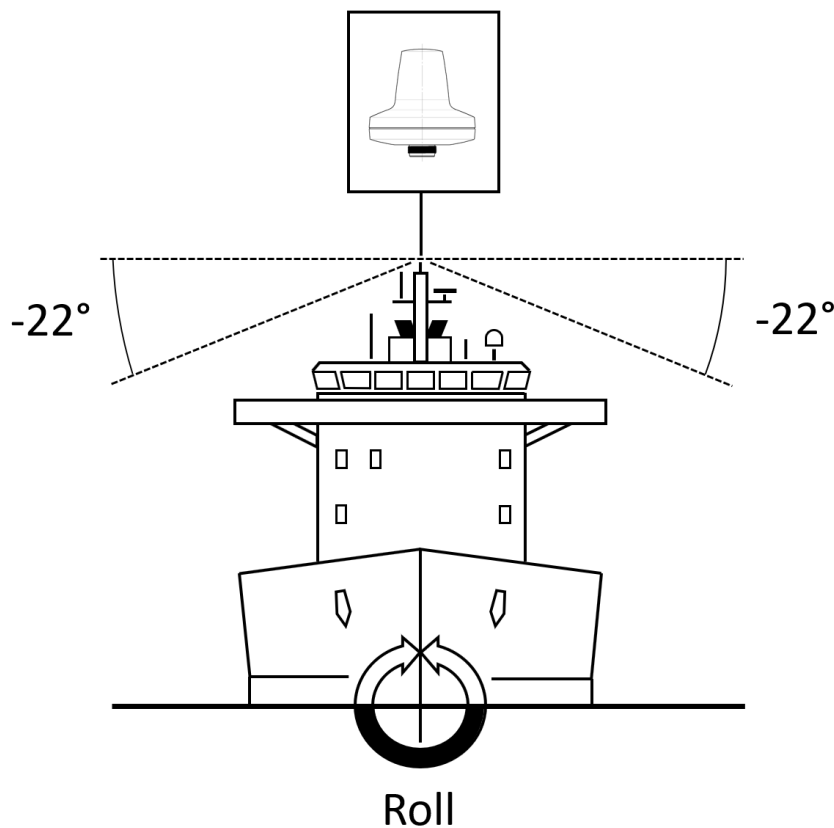
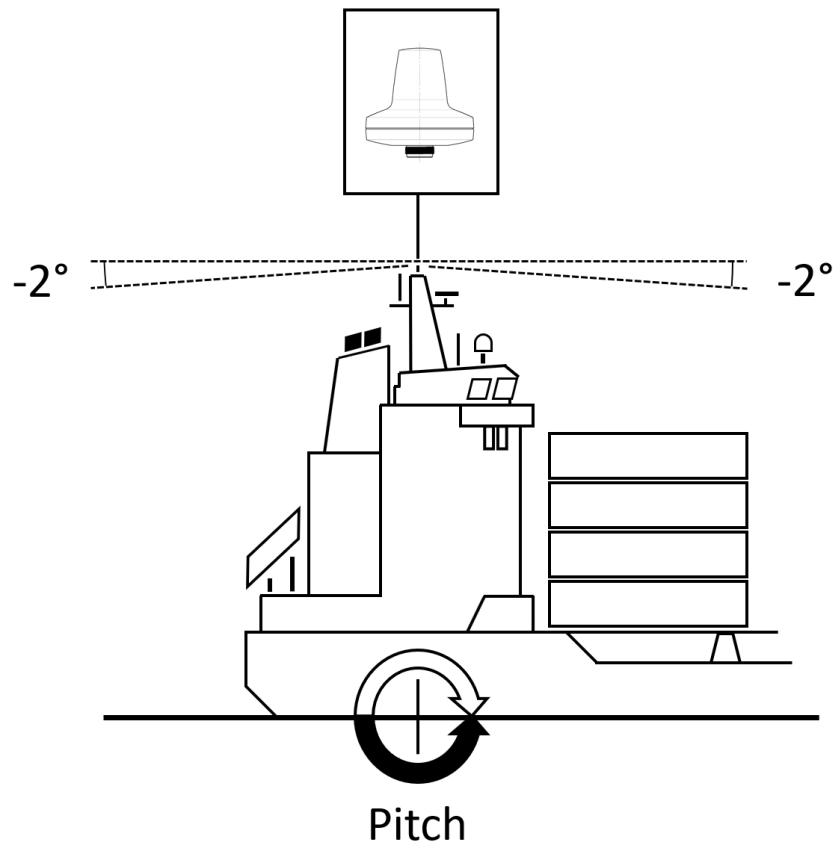

Figure 16: LT-3130 AU Installation (roll: clear view angle below the horizontal plan)
Figure 17: LT-3130 AU Installation (pitch: clear view angle below the horizontal plan)
**IMPORTANT:** For best possible performance of the LT-3100 system, the LT-3130 Antenna Unit must have free line of sight to the Iridium satellites as illustrated in Figure 16 and in Figure 17 (clear view angle below the horizontal plan). To have the best possible obstructions should be below the marked lines of these two illustrative figures.